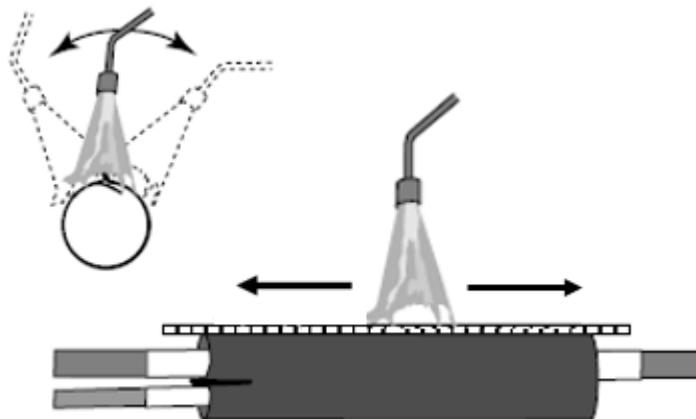

Figure 13
27. Ensuring the open flame is correctly adjusted, preheat both sides of the heat shrink until they begin to shrink. Continue the heating of the heat shrink in a fluent motion from side to side along the metal channels while ensuring the heat shrink sleeve continues to shrink evenly. (Figure 13)